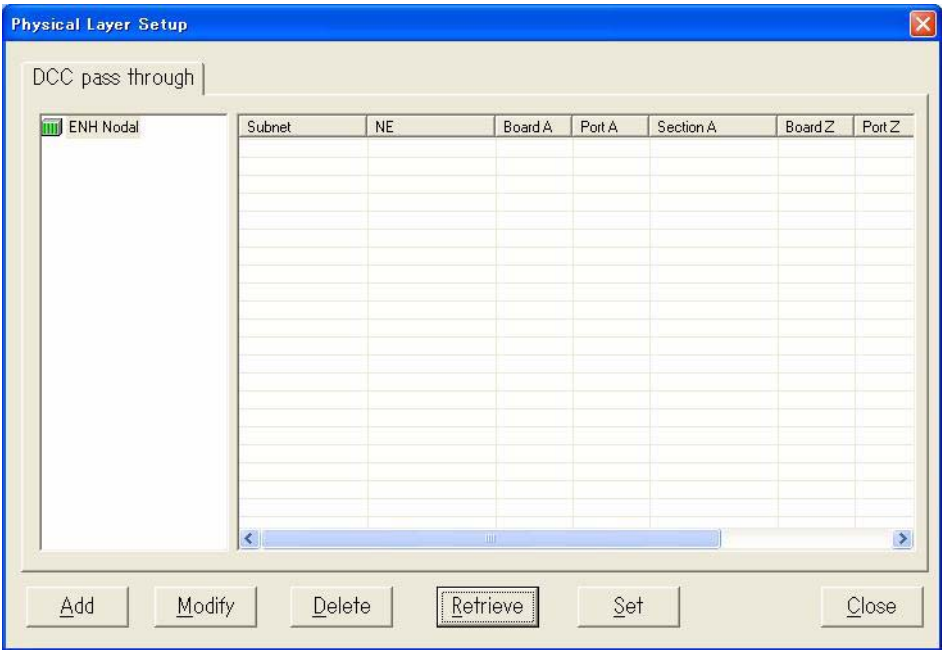

Fig. 4-6-1 Physical Layer Setup Dialog Box (DCC pass through)
- 1 Click the **DCC pass through** tab (see *Fig. 4-6-1* for an example).